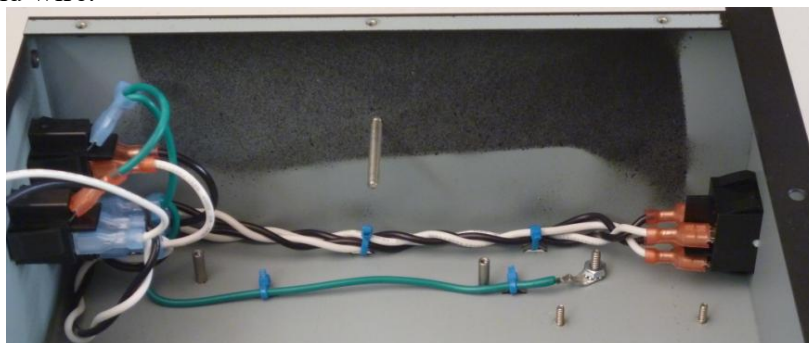

Figure 16-AC Power and Ground Wiring
6. Dress the long green wire toward the ground stud behind the switch as shown in Figure 16. Use two more cable ties in the tie down positions shown to secure the ground wire.